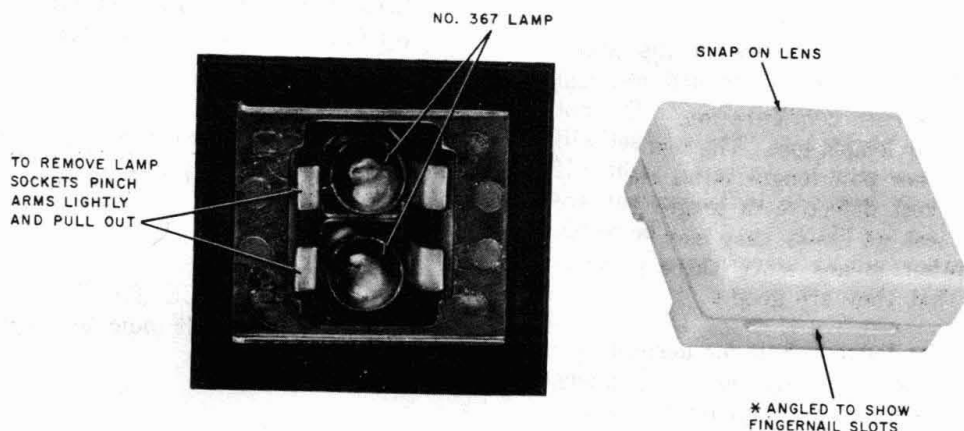

Fig. 4—Replacing Miniature Lamp
- (1) HIGH VOLTAGE—Neon lamp should light, green "GO" lamp and tone will remain on.
- (2) CO BATT—Amber light and low frequency tone.
- (3) GO—Green light and high frequency tone.
- (4) LOW-R—Both red (TIP and RING) resistance fault lamps on and no tone.
(5) CAP UNBAL—Red capacitance fault lamp on and no tone.
**Note:** If lamps should not light, replace with Chicago Miniature Lamp #367 (high voltage lamp number is GE A1H). To replace lamps, remove snap on lense cover on the front panel (Fig. 4). When replacing snap-on cover, press firmly until cover snaps in place.